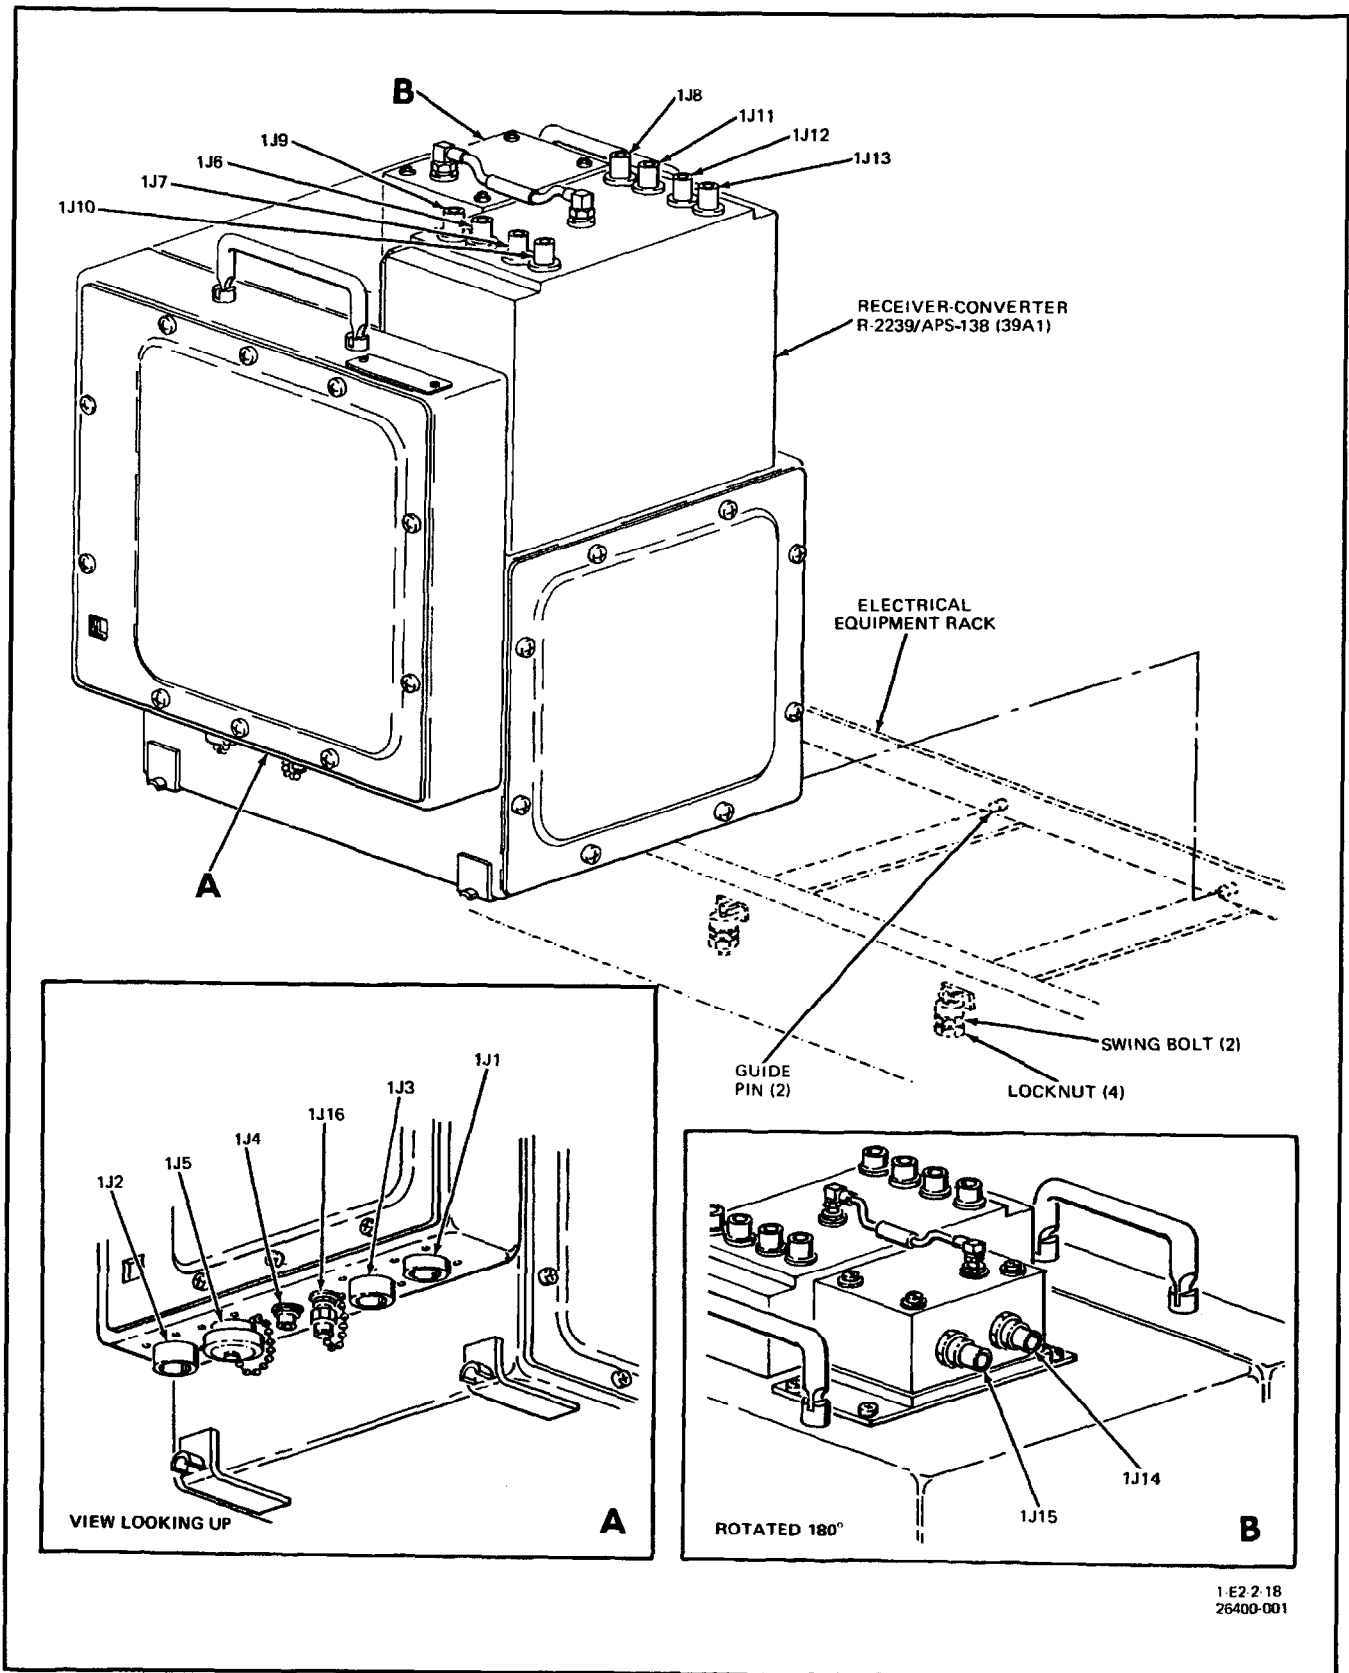

Figure 1. Removal and Installation of Receiver-Converter R-2239/APS-138
4. **INSTALLATION.** (See figure 1.)**WARNING**